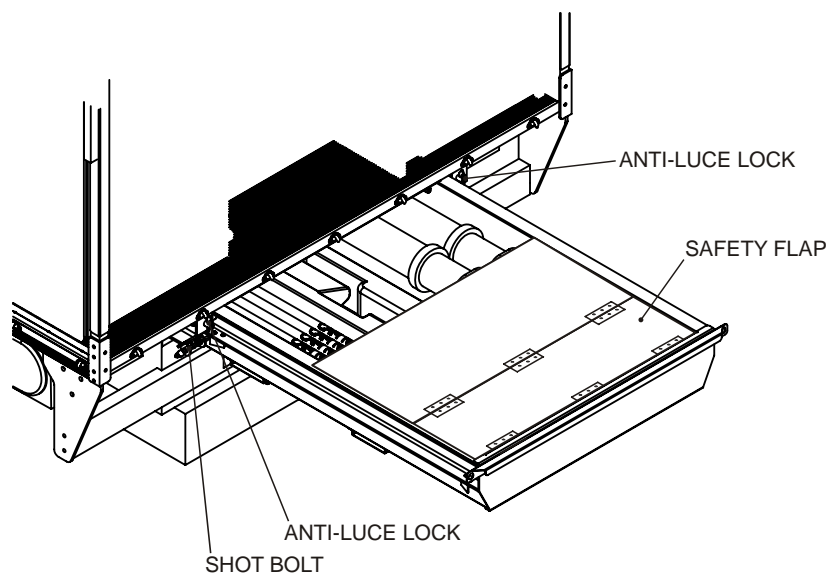

Figure 9 Under Tray Stowage
10. The under tray stowage module is located at the rear and underneath the vehicle (Figure 9). The tray provides stowage for camouflage net poles, Clark Masts and Omni Directional Antennas. A two fold flap fitted at the rear of the tray provides a safety guard for personnel closing the tray and can also be used as an administrative table. The tray is mounted on rollers. The spring loaded shot bolt and two anti-luce fittings provide the locking mechanism. The shot bolt locks the storage tray in three positions for closed, fully open and in position for using the administrative table function.